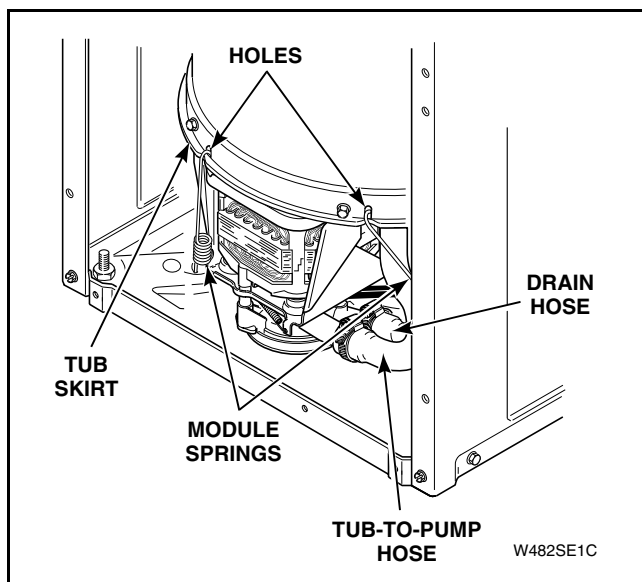

Figure 53
- q. Using No. 289P4 Spring Hook Tool, unhook six module springs from lower edge of outer tub. Refer to Figure 53.
- r. Loosen hose clamp and remove drain hose from pump outlet. Refer to Figure 53.
- y. Loosen hose clamp and remove tub-to-pump hose, from bottom of outer tub. Refer to Figure 53.
- k. Using No. 289P4 Spring Hook Tool, unhook six module springs from lower edge of outer tub. Refer to *Figure 53*.
- l. Loosen hose clamp and remove drain hose from pump outlet. Refer to *Figure 53*.